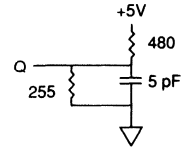

Fig. 2 OUTPUT LOAD EQUIVALENT
- t_{HZCE} and t_{HZWE} are specified with CL = 5pF as in Fig. 2. Transition is measured ±500mV from steady state voltage.